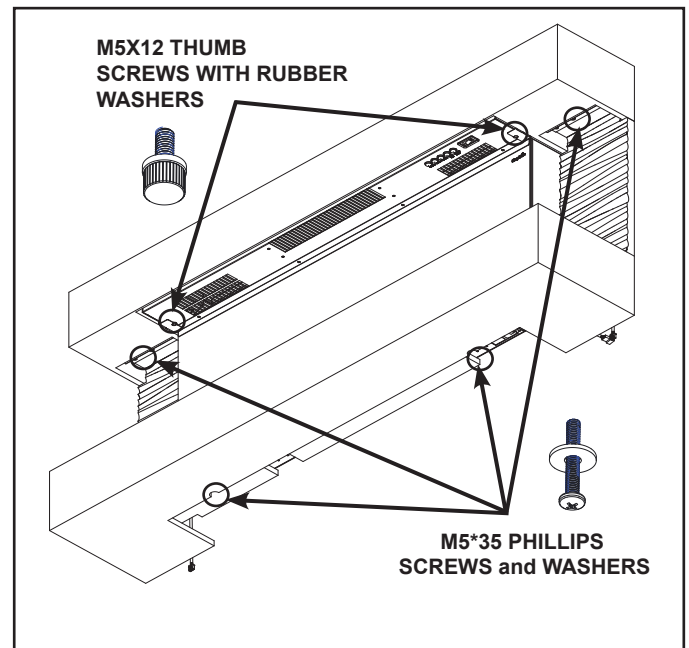

Figure 10
2. Fasten the bottom mantel section to the appliance with two (2) M5\*35 Phillips screws. See Figure 10.
7. Secure the top mantel to the appliance using two (2) thumb screws with rubber washers. See Figure 10.
8. Secure the side panels using two (2) provided M5\*35 screws.